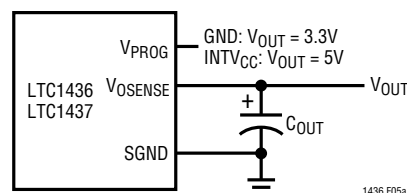
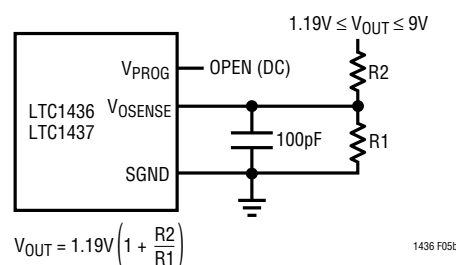

Figure 5a. LTC1436/LTC1437 Fixed Output Applications
Figure 5b. LTC1436/LTC1437 Adjustable Applications
The LTC1436/LTC1437 family also has remote output voltage sense capability. The top of an internal resistive divider is connected to V_{OSENSE} . For fixed 3.3V and 5V output voltage applications the V_{OSENSE} pin is connected to the output voltage as shown in Figure 5a. When using an external resistor divider, the V_{PROG} pin is left open (DC) and the V_{OSENSE} pin is connected to the feedback resistors as shown in Figure 5b.